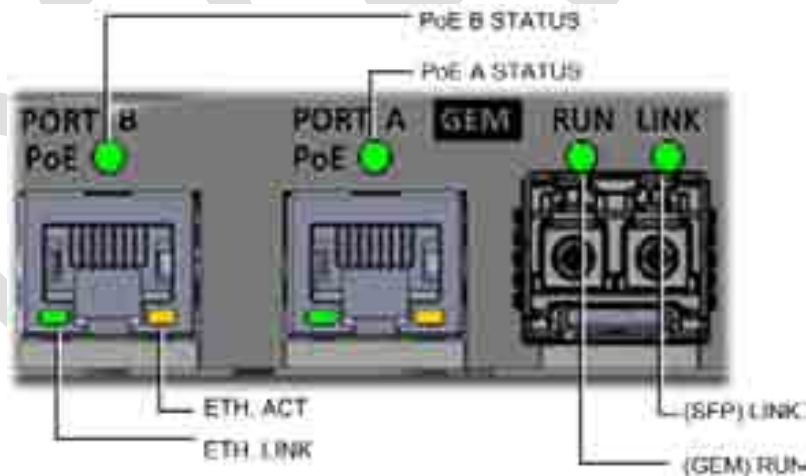

Figure 5-84. GEM Status LEDs
D. Verify normal operation according to Figure 5-84 and Table 5-9.